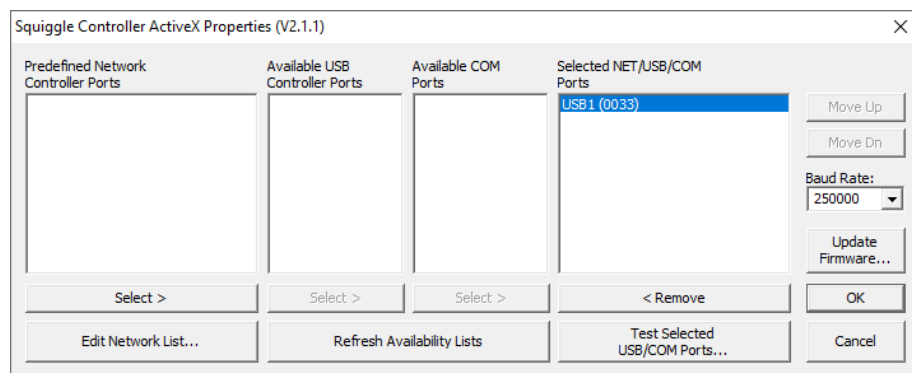

Figure 1-2. The Setup Connection window
1. On the Main window (Figure 1-1), click **Setup Connection**. The *Setup Connection* window opens (Figure 1-2).